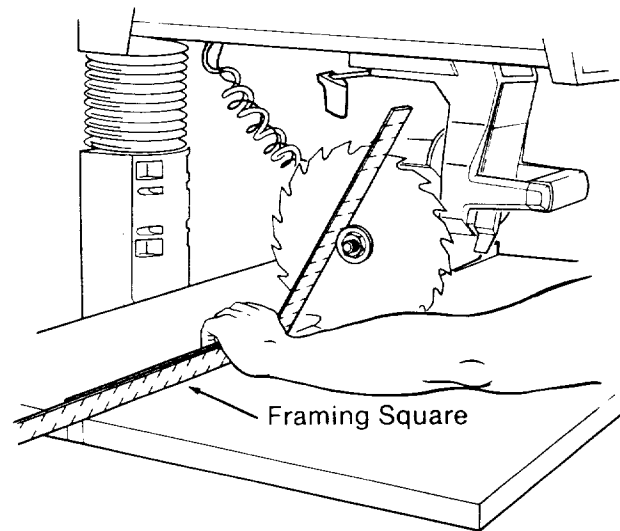

Fig. 76 - Squaring Blade to Fence
1. Put the *radial arm* in the 0° miter position with the *blade* just in front of the *fence*. (Figure 76)
3. Place the framing square with the long edge against **both** the *fence* and the *table*, and the short edge against the *blade* just above the *arbor shaft*. Make sure that the edge of the square is on the *blade* and not on the set of a tooth. (Figure 76)